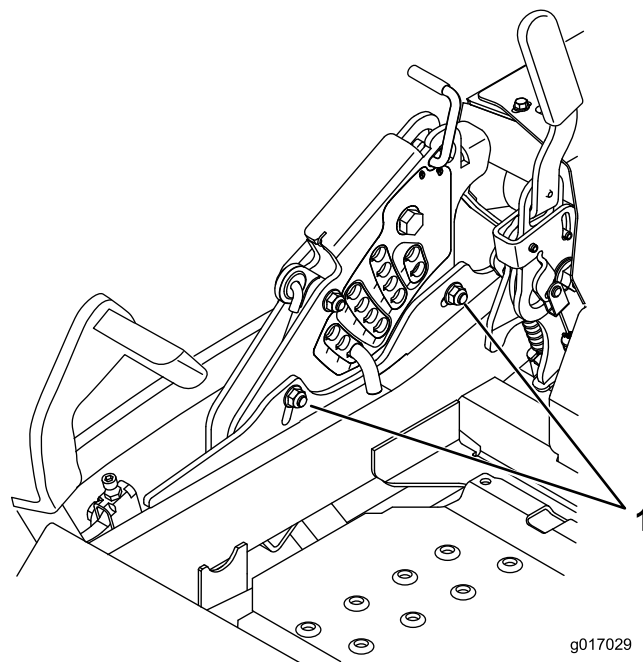

Figure 96
13. To adjust the single point system, loosen the two bolts at the bottom of the height of cut plate. Refer to Figure 96.
15. Tighten the two bolts at the bottom of the height of cut plate (Figure 96). Torque to 27-33 ft-lb (37-45 N-m).